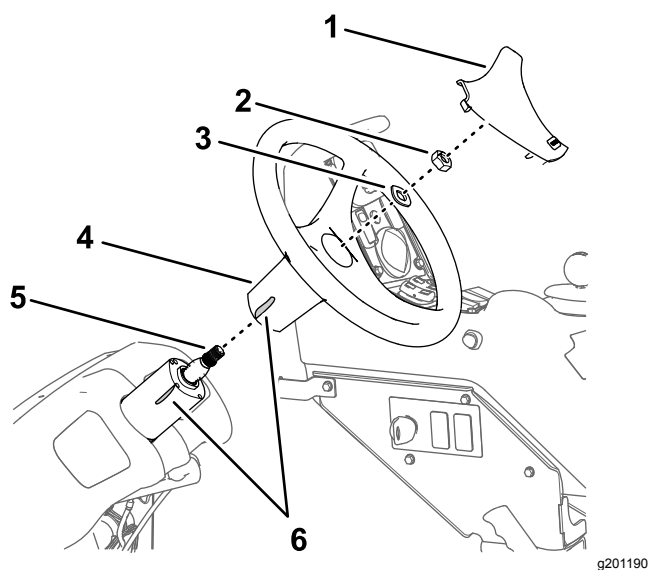

Figure 158
1. Mark the position of the steering wheel to the steering valve with a piece of tape (Figure 158).
2. Remove the cover from the steering wheel (Figure 158).
3. Remove the nut (5/8 inch) and washer (5/8 inch) that secure the steering wheel to the steering valve, and remove the steering wheel (Figure 158).